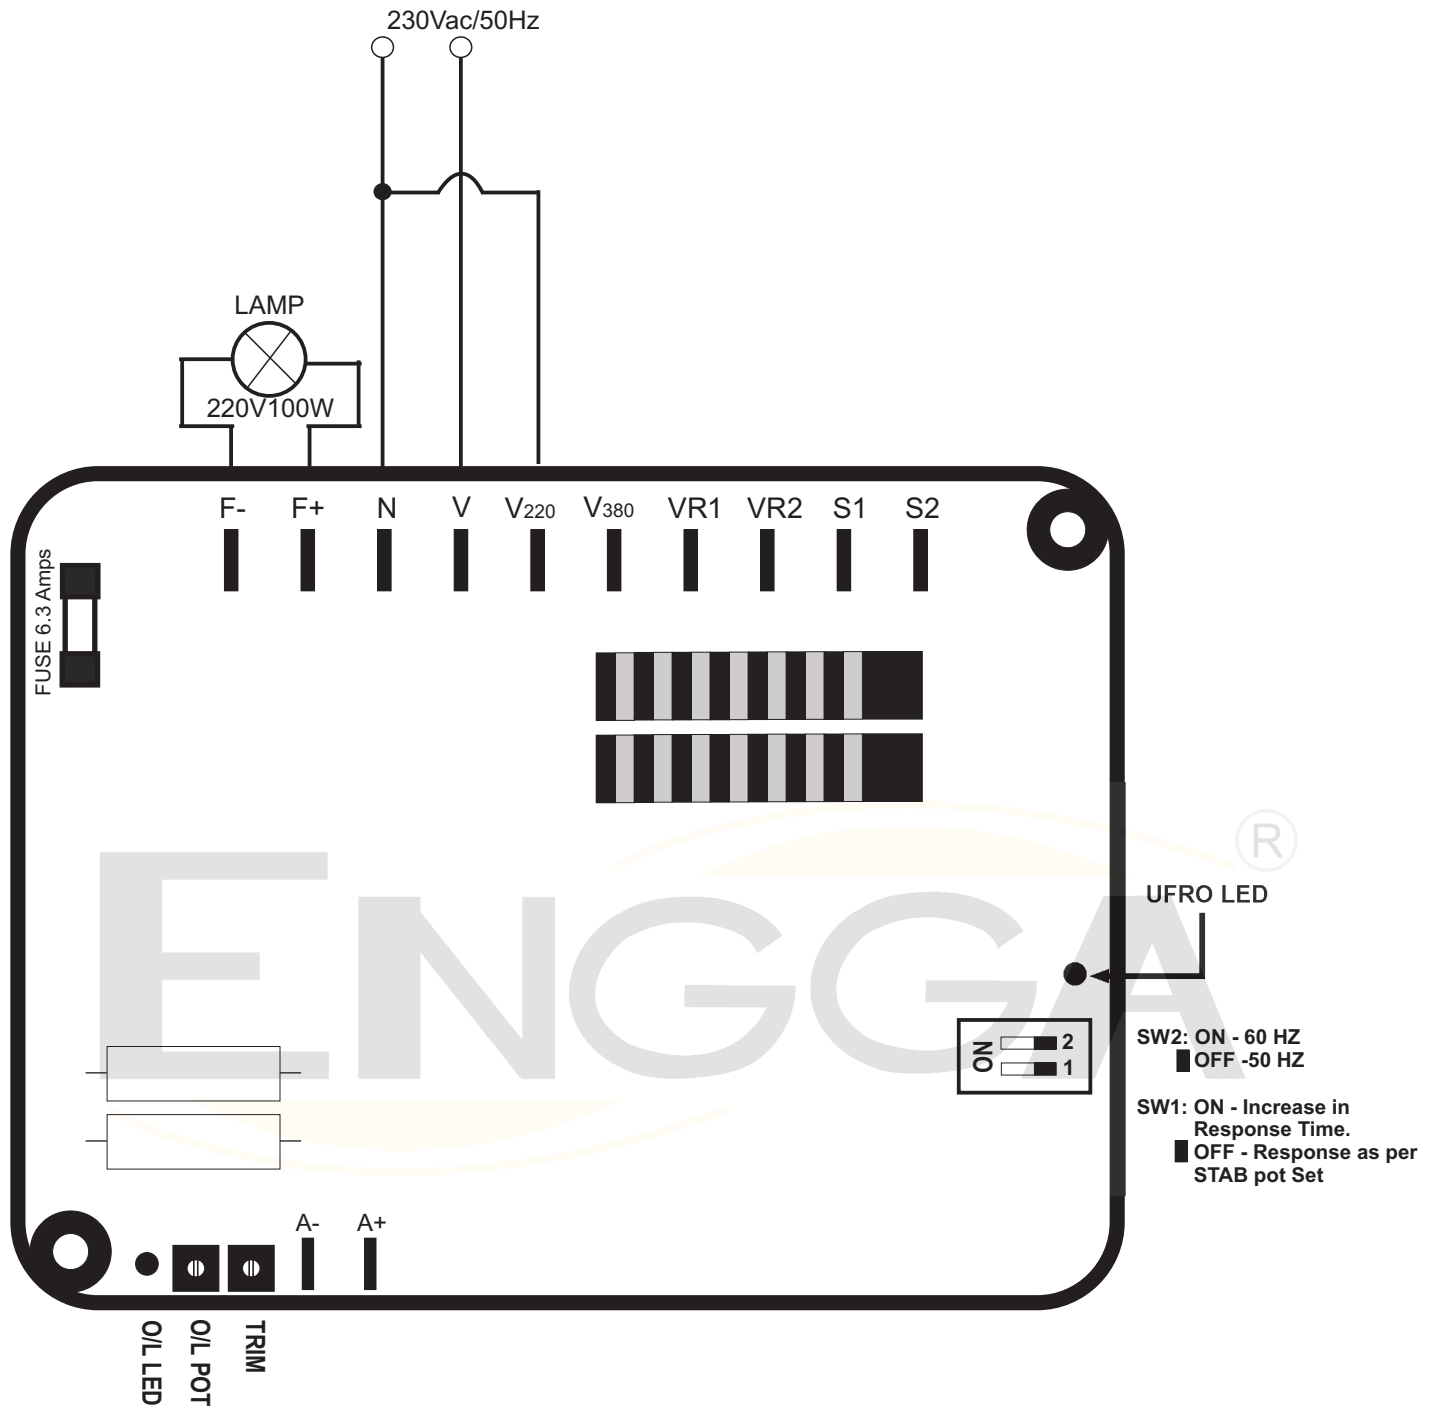

Figure 5. Operational Test
To operationally test any EVC300i, refer to Figure 5 and perform the following steps:
- a. Connect the voltage regulator as shown in Figure 5 and apply 230 Vac 50 Hz.
- b. Adjust the rear panel **VOLT** trimmer fully clockwise (CW).